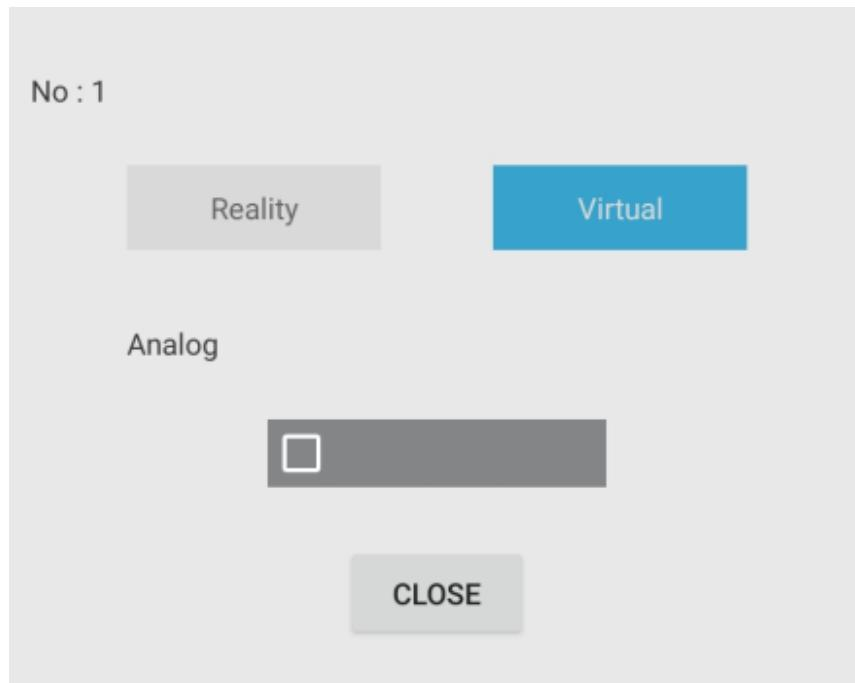

Figure 1.33 Simulation
- **Simulation:** Simulate the analog input in the manual mode or auto mode for debugging and running program with the operator authority or higher authority, as shown in Figure 1.33.